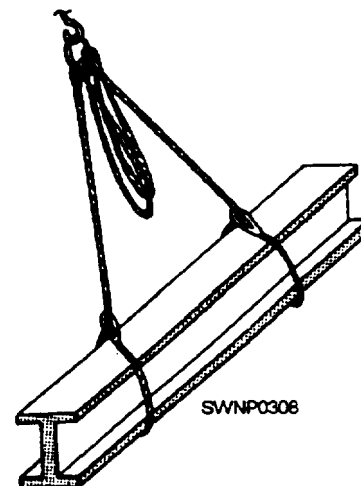

Figure 6-61.—Secure sling legs that are not used.
**NOTE:** If all the legs of a multi-legged sling are not required, secure the remaining legs out of the way, as shown in figure 6-61.